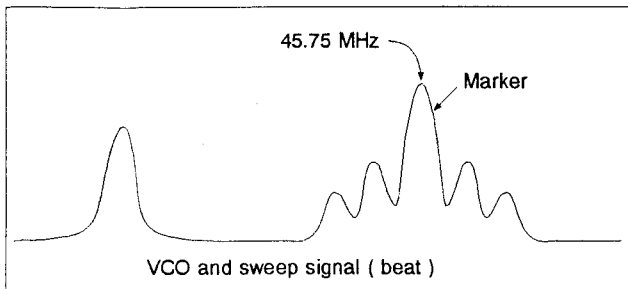

Fig. 3-1-24 VCO coil
- 3) Connect the oscilloscope to pin 17 of IC1 (VIDEO DET OUT) and adjust T3 to align the waveform with the frequency marker as shown in Fig. 3-1-24.
- 1) Use an adjustment circuit, and connect a distortion meter as shown in Fig. 3-1-24.